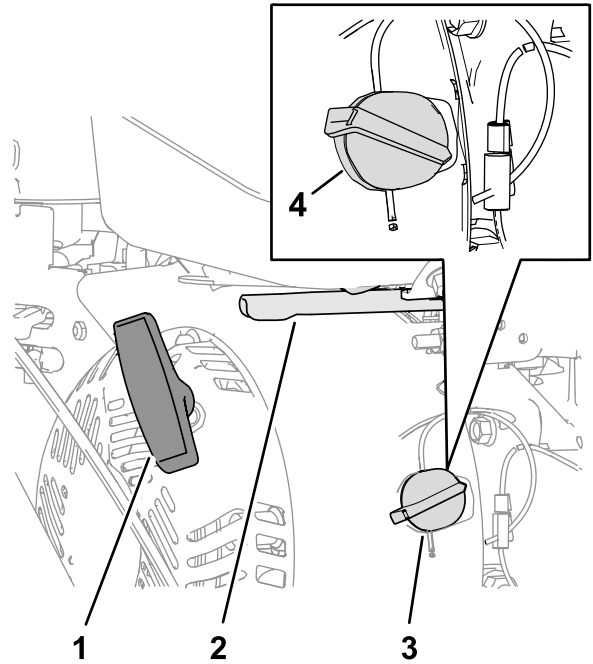

Figure 12
1. On the right side of the engine, rotate the engine On/Off switch clockwise to the ON position (Figure 12).
3. Place the throttle midway between the SLOW and FAST positions located on rear, right side of the engine (Figure 12).
4. Slowly pull the recoil-start handle until you feel resistance and then stop (Figure 12).
2. Place the throttle midway between the SLOW and FAST positions (Figure 12).
3. Allow the engine to run for a minimum of 15 seconds, then turn the engine On/Off switch to the OFF position to shut off the engine (Figure 12).